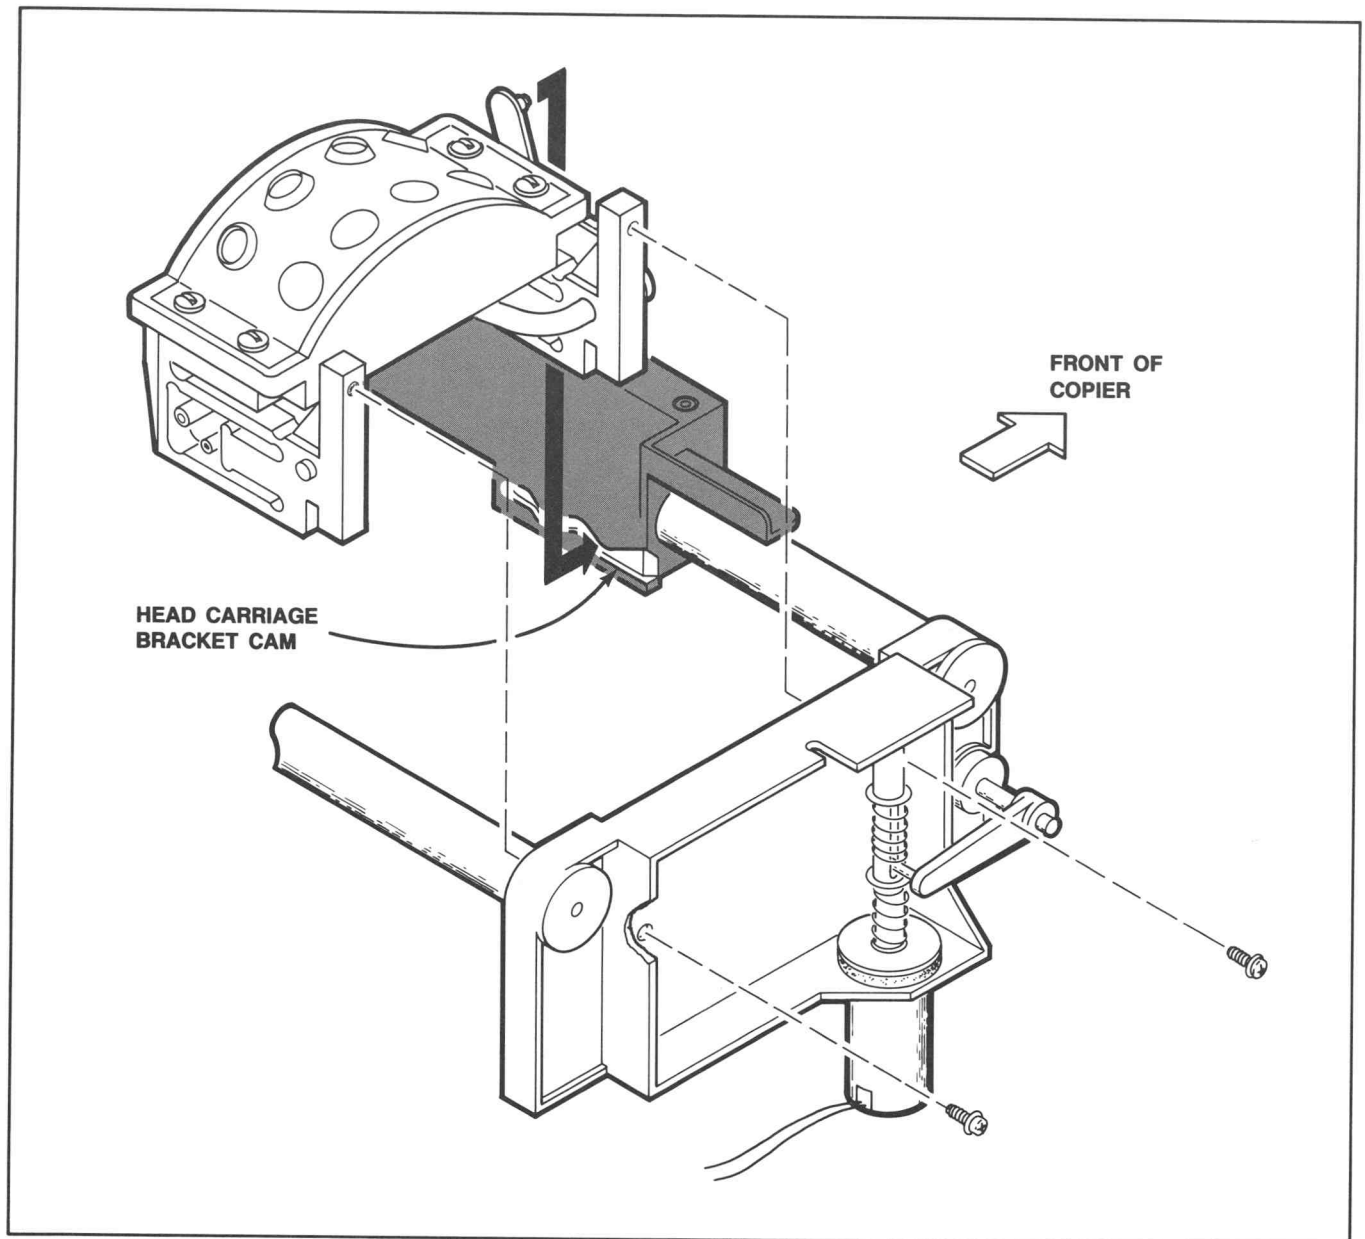

Figure 6-10. Alignment of Head Carriage Cam and Maintenance Station Arm.
6. To replace the maintenance station, reverse these procedures. A new or replacement unit requires you to align the arm that mates with a cam slot in the head carriage bearing (Figure 6-10). You need a 7/64" Allen driver to make this adjustment.